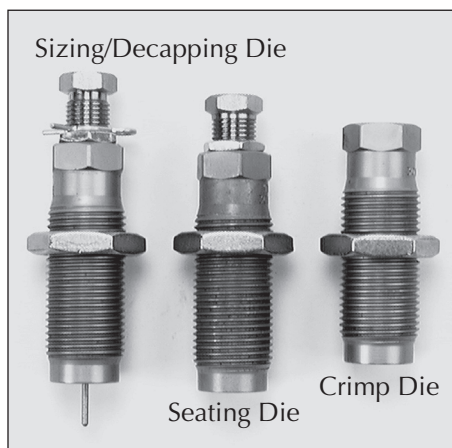

FIG 121
M. Station 5 – Installation and adjustment of the Crimp Die **FIG 121:**